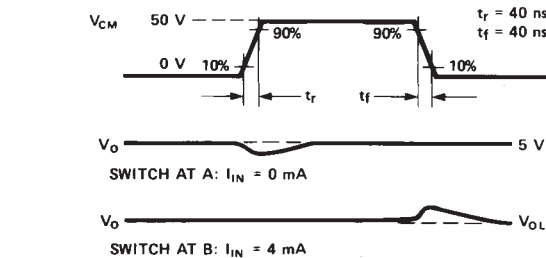

Figure 8. Test Circuit for Common Mode Transient Immunity and Typical Waveforms.
- Common mode transient immunity in Logic High level is the maximum tolerable $dV_{\text{CM}/dt}$ of the common mode voltage, V_{CM} , to ensure that the output will remain in a Logic High state (i.e., $V_O > 2.0\text{ V}$). Common mode transient immunity in Logic Low level is the maximum tolerable $dV_{\text{CM}/dt}$ of the common mode voltage, V_{CM} , to ensure that the output will remain in a Logic Low state (i.e., $V_O < 0.8\text{ V}$). See Figure 8.